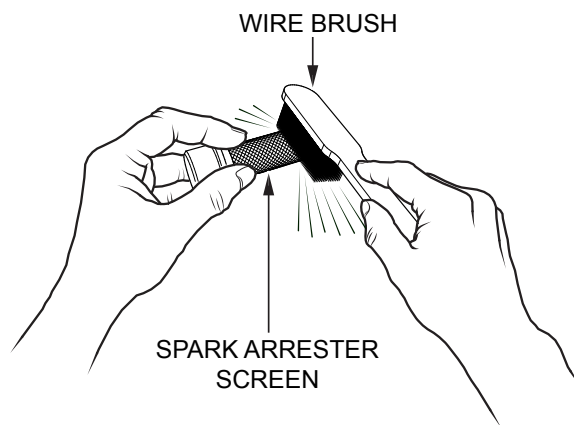

Figure 63. Cleaning the Spark Arrester
3. Carefully remove carbon deposits from the spark arrester screen (Figure 63) with a wire brush.